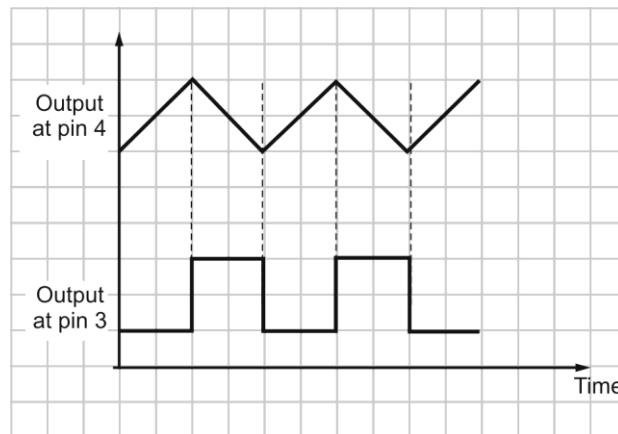

Fig. 5.4.4
- Fig. 5.4.4 shows the output waveform.